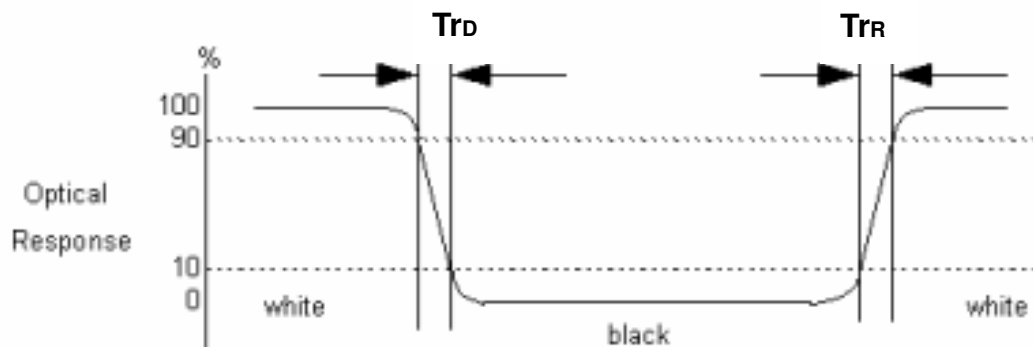

**Fig.4-2 Optical measurement point**
2. Surface luminance is luminance value at point 1 across the LCD surface 50cm from the surface with all pixels displaying white. From more information see Fig. 4-2. When  $V_{DDB} = 24V$ ,  $I_{DDB} = (7.3A)$ .